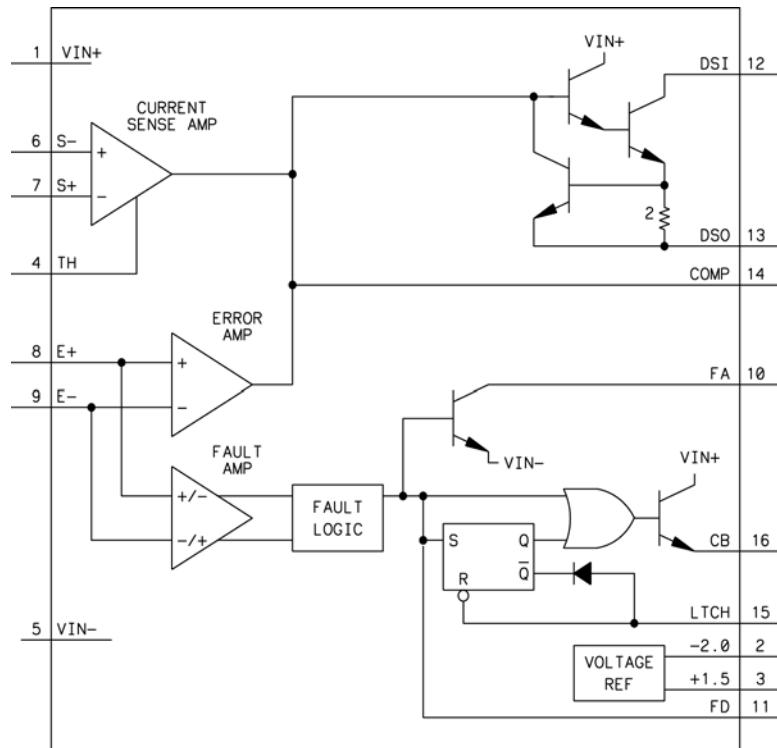

Figure 8 Voltage Regulator IC Simplified Diagram
- **Figure 8**, “Voltage Regulator IC Simplified Diagram,” on page 51